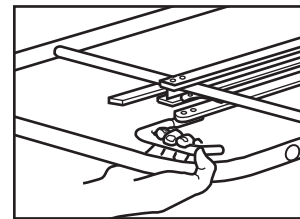

Figure 20 - Rear-Leg Control Handle
6. Control Operator: Squeeze and hold the rear-leg control handle (Figure 20) and push the cot forward until it is completely inside the ambulance.